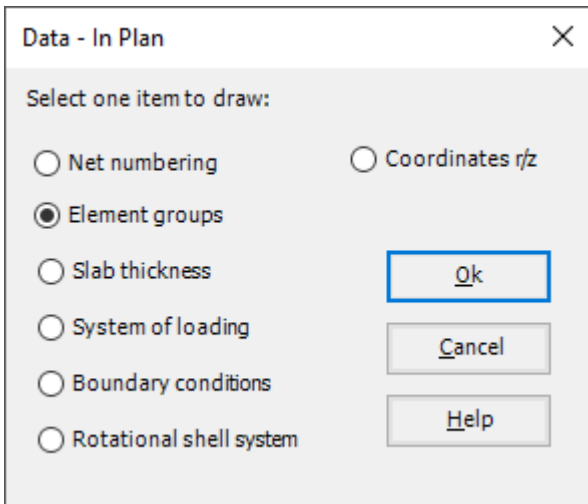

Figure 13.28 "Data – In Plan" option box
- Choose "Element groups" from "In Plan" command in "Data" menu. The following option box in Figure 13.28 appears